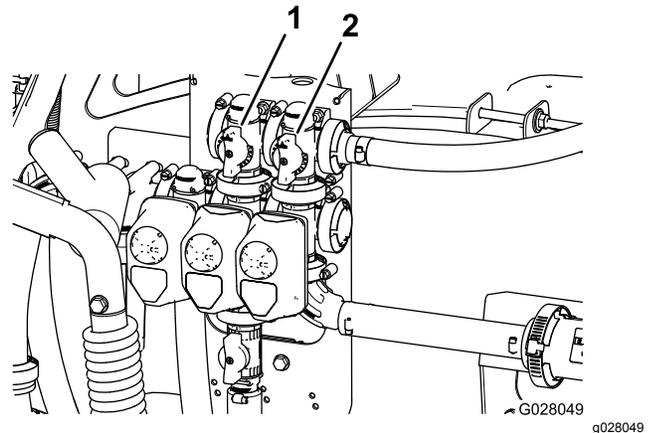

Figure 31
11. Adjust the agitation-bypass valve (Figure 31) on the backside of the agitation valve until the pressure reading on the gauge is 6.9 bar (100 psi).
9. Adjust the master-boom-bypass handle to control the amount of agitation occurring in the tank (Figure 31).